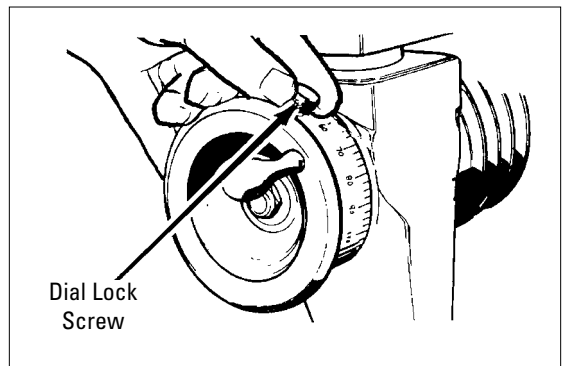

Figure 13 - Set drum diameter measurement
**9.** Loosen the dial lock screw on the cross feed handwheel and set the dial to the diameter of the drum as measured with the micrometer (figure 13). Tighten the lock screw.